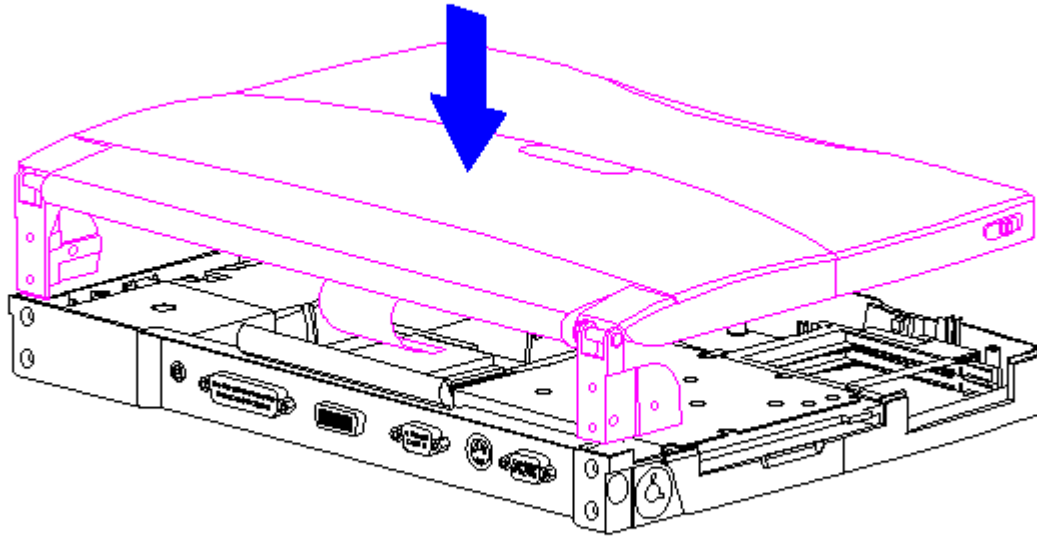

Figure 3-178. Replacing the Display Assembly (All Models)
27. Align the clutches with the system unit module, ensuring that the display ground cable and the display cable are positioned on top of the system unit module (Figure 3-178).